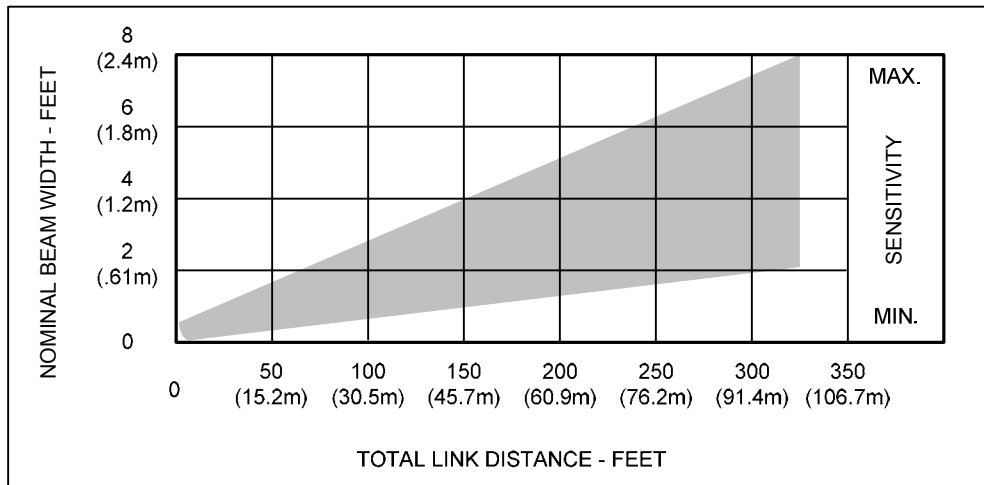

Figure 3 – Pattern Width vs Link Distance and Sensitivity
Figure 3 illustrates how pattern width varies with Transmitter-Receiver distance and sensitivity setting. Actual patterns will vary somewhat with site topography and surface condition. Generally, lower mounting height or rougher surface will increase pattern width.
For example, if the total link distance is 250 feet (76.2m) and the sensitivity adjustment set to mid-point. Figure 3 indicates the detection pattern width to be 4 feet (1.2m).
Whenever signal exceeds either threshold voltage, an alarm is generated. Gain of signal amplifier may be adjusted with “Sensitivity” potentiometer on circuit board to modify protection patterns per Figures 3. Signal bandwidth, affecting Model 310B-33456’s response to fast moving targets, may be set “Fast” or “Slow” with PCB Jumper.
- 1.2 Beam Diameter: 2 feet (.6m) to 8 feet (2.4m) depending upon link distance and “Sensitivity” setting per Figure 3.
The clear area required for a Model 310B-33456 installation depends upon the distance to be covered by the link. Protection patterns for various conditions are given in Figures 3. In each installation the clear area must be at least as large as the maximum protection pattern shown in Figure 3.